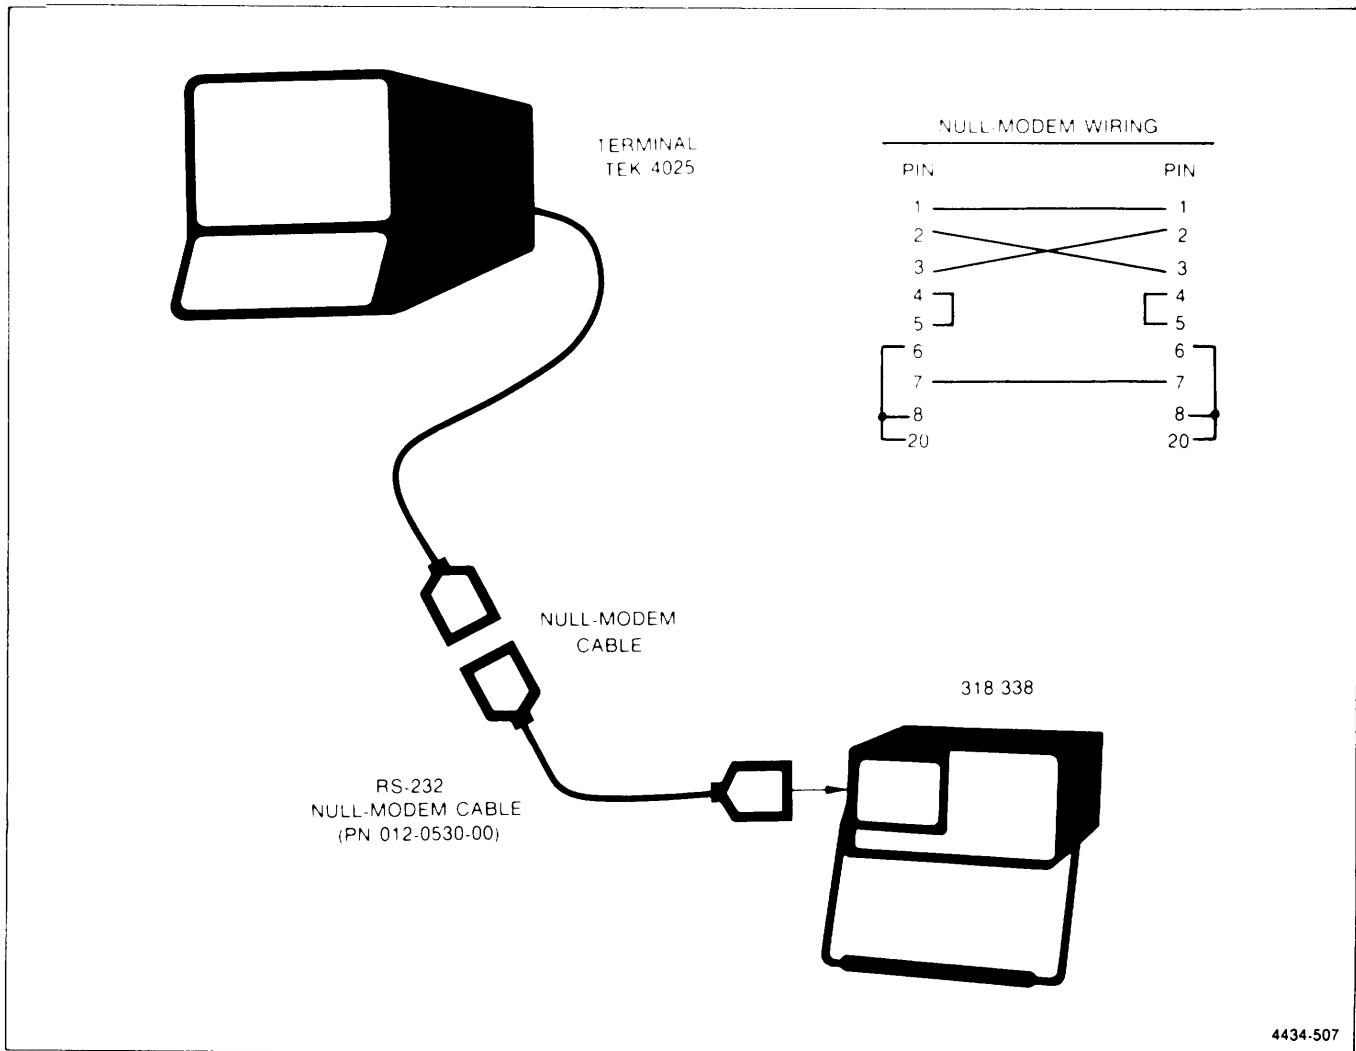

Figure 5-13. 318 Setup for RS-232C control.
- a. Connect the test setup as shown in Figure 5-13.